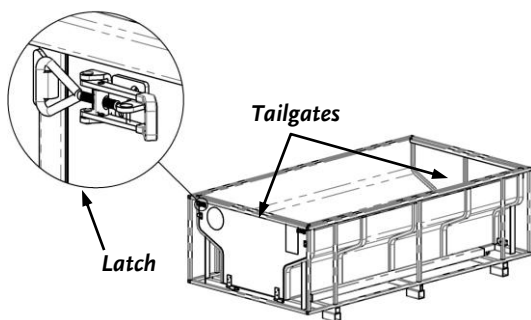

Figure 44
- Remove the Bed from the steel-shipping Crate with the assistance of at least one other person by lifting the Bed straight up, and out of the Crate by the Tailgates. Make sure all four Latches on the Tailgates are properly latched (**Figure 44**) before lifting the Bed out of the Crate and placing it on the ground.